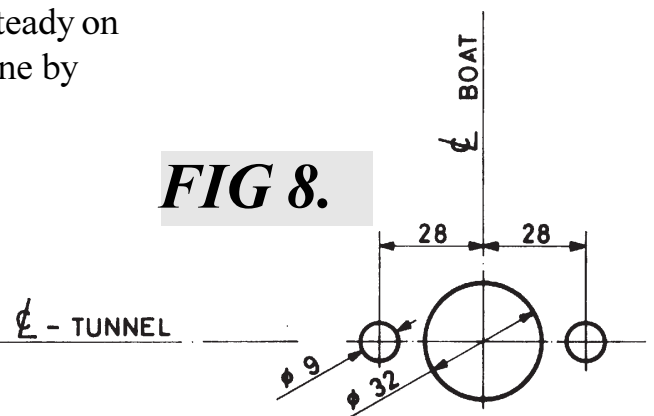

FIG 8.
2. Use the 2mm thick gasket to mark where to drill the holes (fig. 8).